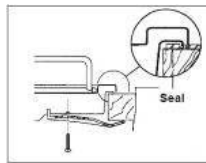

Figure7
- Fix the hob with the relevant fixing clamps and screws, as shown in the diagram. When the screws have been tightened, the excess seal can be removed. (See Figure 7*)